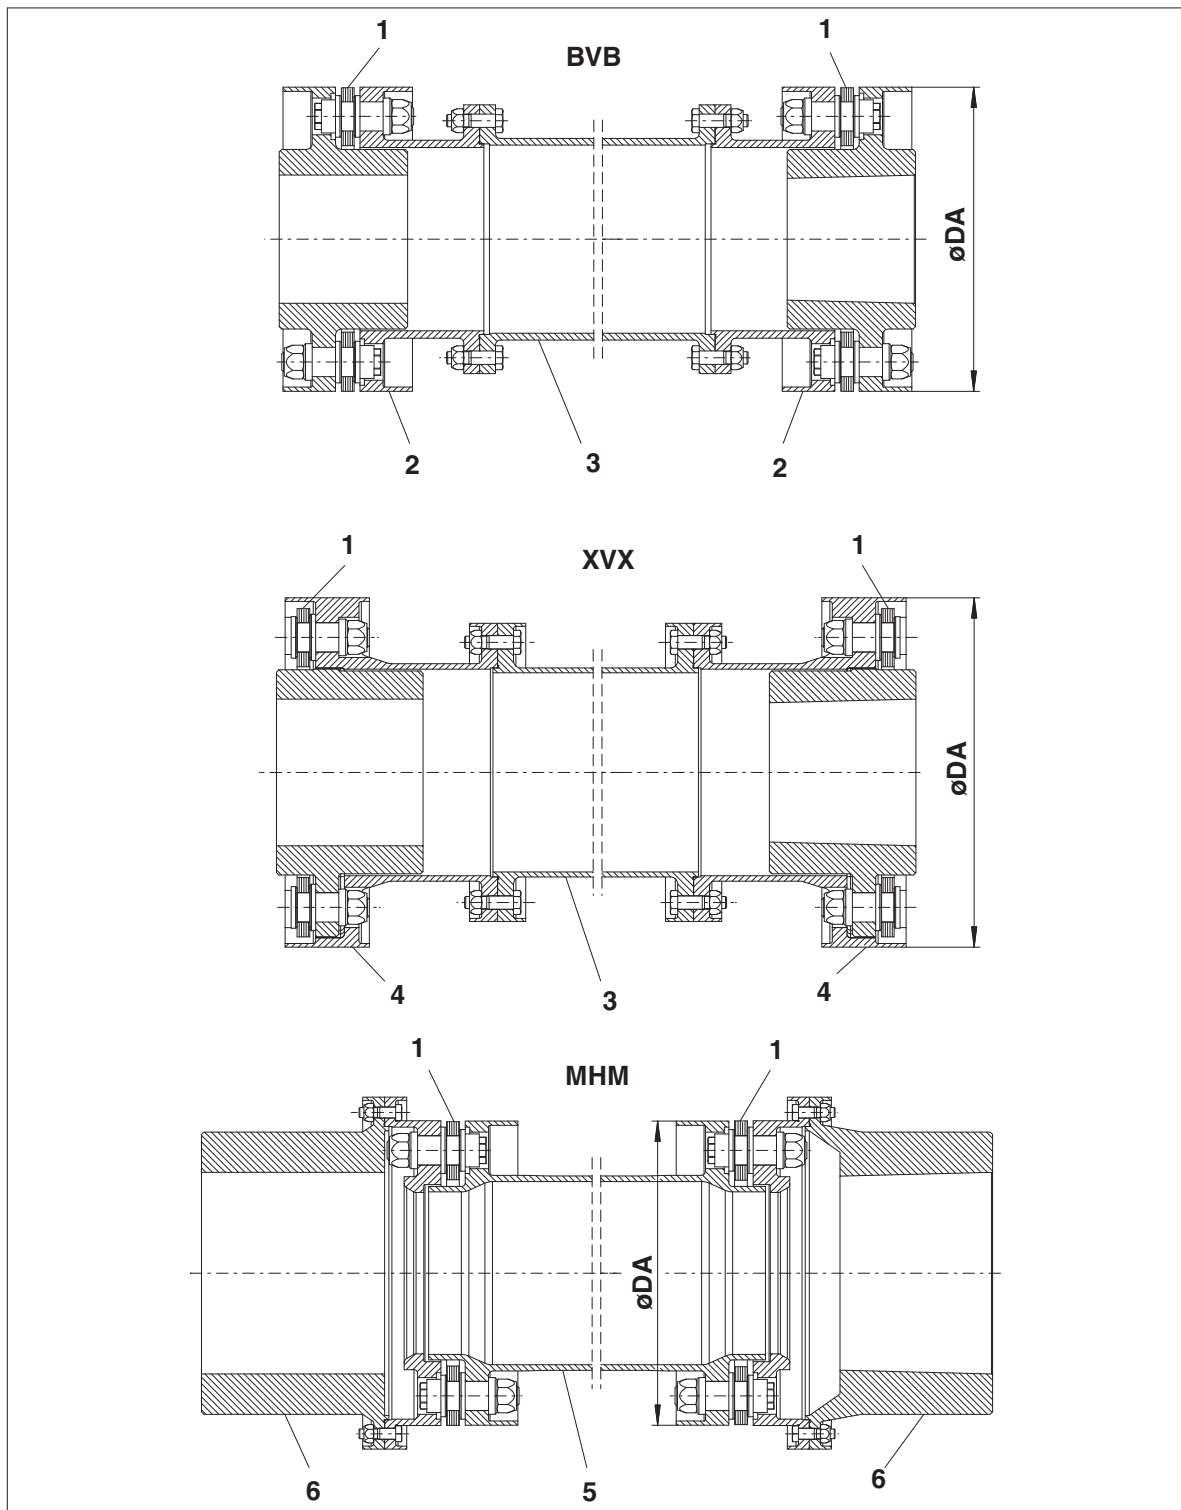
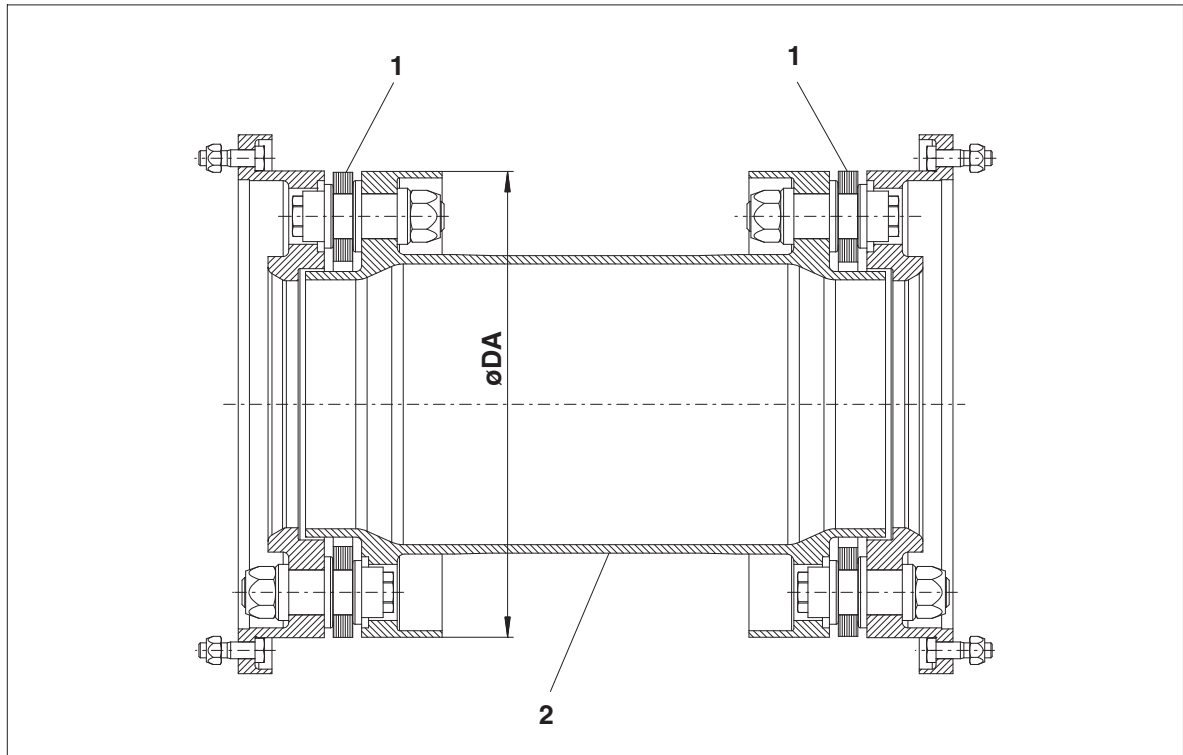
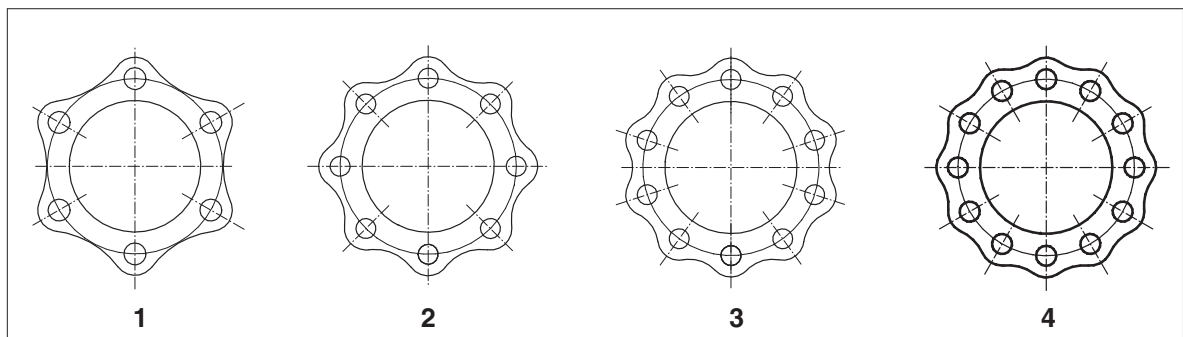

Fig. 3: Types **BVB**, **XVX** and **MHM**
Fig. 4: Type with "H" module
Fig. 5: Designs of the plates
ARPEX-turbo couplings are all-steel couplings and can be supplied, inter alia, in the types shown in figures 3 and 4. The plate packs are arranged in the fitted coupling modules between the flanges of the coupling parts and bolted to them alternately. The ARPEX coupling is torsion-resistant and transmits the torque without circumferential backlash. In axial and radial direction the coupling is however still flexible and can absorb axial, radial and angular misalignment of the coupled units.
The size designation of the coupling indicates the outside flange diameter **DA** (see fig. 3 and/or fig. 4) of the coupling **in mm**. Attached item 6, 8, 10 or 12 (special version) specifies the number of screw-connection points on the plate pack (see figure 5). This information is prefixed by a letter combination specifying the component parts of the coupling.